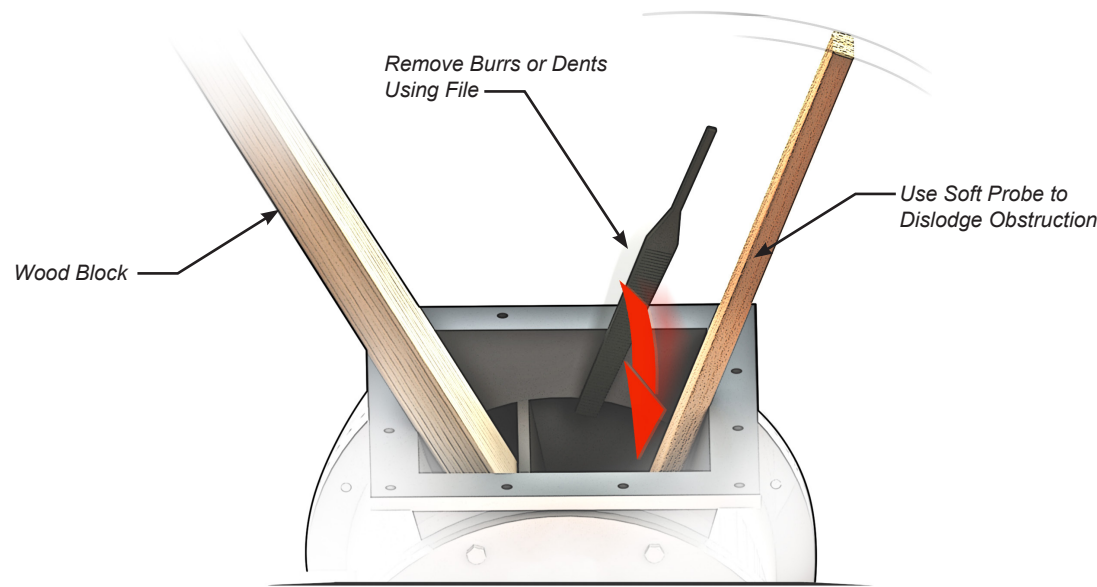

FIGURE 6
- 3. Place a block in the airlock to prevent the rotor from turning unexpectedly (Figure 6).
- 3. Place a wood block in the airlock to prevent the rotor from turning unexpectedly (Figure 6).